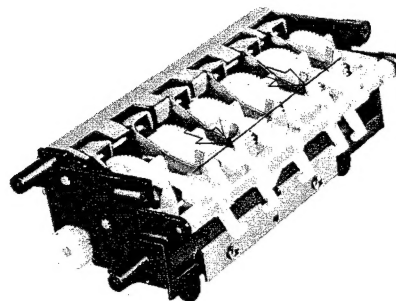

Fig. 17
- 4) Confirm that the assembly will not move even if the lever (gear stopper) is pressed. (See figure 17)